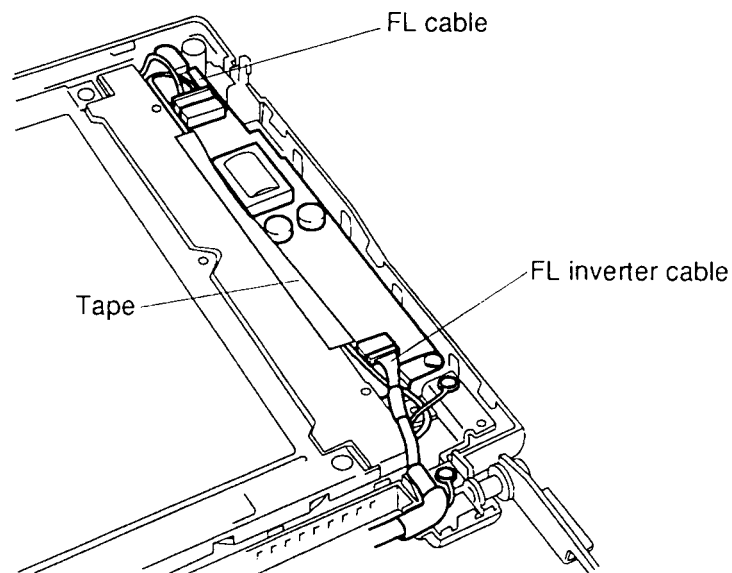

Figure 4-43 Seating the FL Inverter Board and Routing the Cables
2. Seat the **FL inverter board** and route the cables so they will not be pinched by the display cover or any other component (Figure 4-43).
3. Make sure the **FL cable** is secured with **tape** as indicated in Figure 4-43.
4. Insert the grounding tabs in the **M2.5x4 screws**, then secure the **FL inverter board** to the display cover (Figure 4-43).